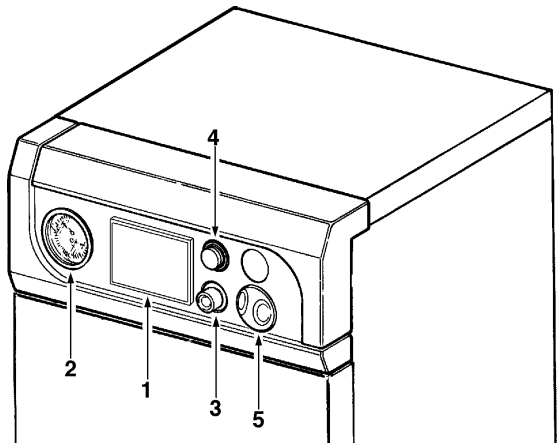

Fig. 1
Regulating thermostat, manual resetting 3 (fig. 1)
Central thermostat 5 (fig. 1)
- 3) Give electric power to the boiler and switch on the main switch 4 (fig. 1) on the boiler control panel.
To turn off the unit for a short period it is enough to switch off the switch 4 (fig. 1) on the control panel.